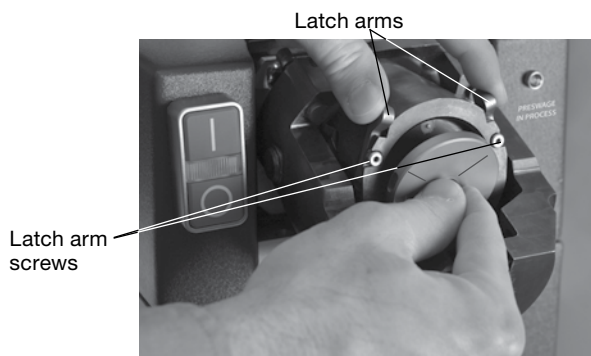

Fig. 8 Squeezing the Latch Arms
2. Squeeze the left and right latch arms and place the die/puck assembly into the contact plate with the marks on the die/puck assembly aligning with the latch arm screws and release the arms. Ensure that the nut contact sensor is pointing downward. Fig. 8 and 9.